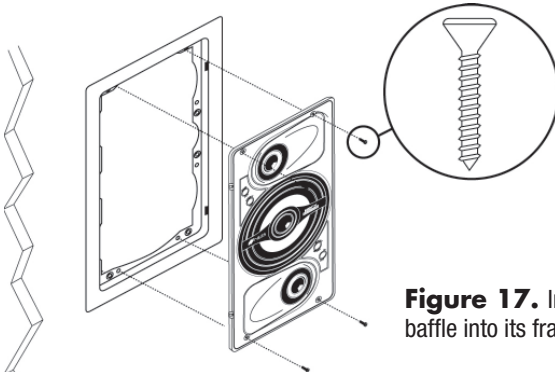

Figure 17. Inserting the loudspeaker baffle into its frame with sheet-metal screws.
- b. *Place the self-tapping sheet-metal screw in the dimple and turn it with a screwdriver until it cuts through the baffle and anchors securely in the frame, as shown in **Figure 17**.*